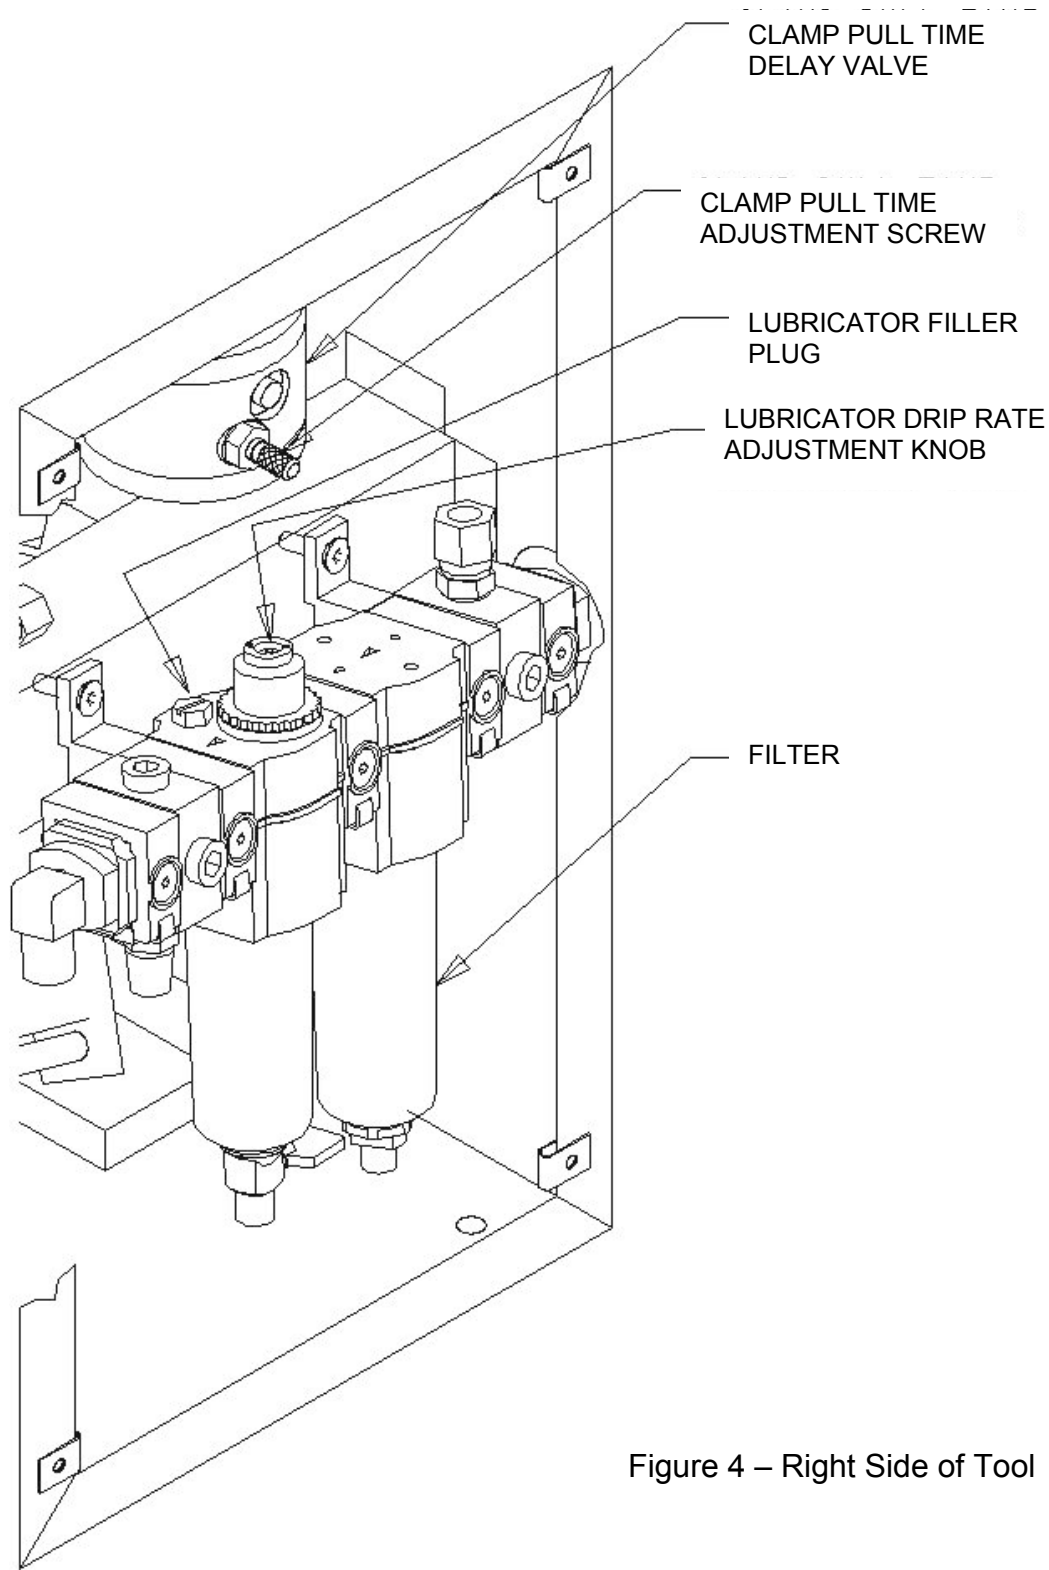

Figure 4 – Right Side of Tool
4. Remove the filler plug of the lubricator, see figure 4, and fill the bowl to the fill line with the DTE 24 hydraulic oil supplied with the tool. Note: The lubricator cannot be filled while tool is pressurized.
The lubricator adjustment must be checked to determine that the drip rate is one drip per cycle (set and locked at Band-It, does not need to be adjusted). Locate the drop rate adjustment knob on the top of the lubricator (Fig. 4). The drip rate adjustment should be made only when there is a constant flow of air through the lubricator (operate the tool).
This is the time needed to allow the pull cylinder to tighten the clamp and to build air pressure to the pressure level selected. Pulling clamps with less than 40 psi does not require as much time to tension the clamp so, if desired, the tool cycle time can be shortened. Conversely, if the tool is used for clamps requiring pull pressure of 40 psi, or greater, the cycle time will need to be longer. To adjust this time, remove the right side panel (4 screws) and locate the time delay valve (Fig. 4). Locate the knurled adjustment knob (secured with a lock nut). Loosen the lock nut with a wrench and turn the screw clockwise (right hand) to increase the cycle time, turn the screw counter-clockwise (left hand) to decrease the cycle time. After an adjustment, it is recommended to cycle the tool a few times to check the time to which the tool has been reset. When satisfied with the time, tighten the lock nut to secure the adjustment knob and reassemble the side panel. A reasonable elapsed time for this portion of the cycle is three seconds.